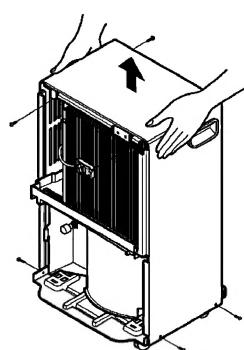

Figure 13
(See Figure 13)
4. Lift the Cabinet from the base.(See Figure 13)